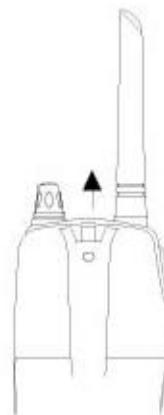

Figure 3
2. While pulling the **BELT CLIP LATCH**, push up on the **BELT CLIP** to remove it from the unit, as shown in Figure 3.